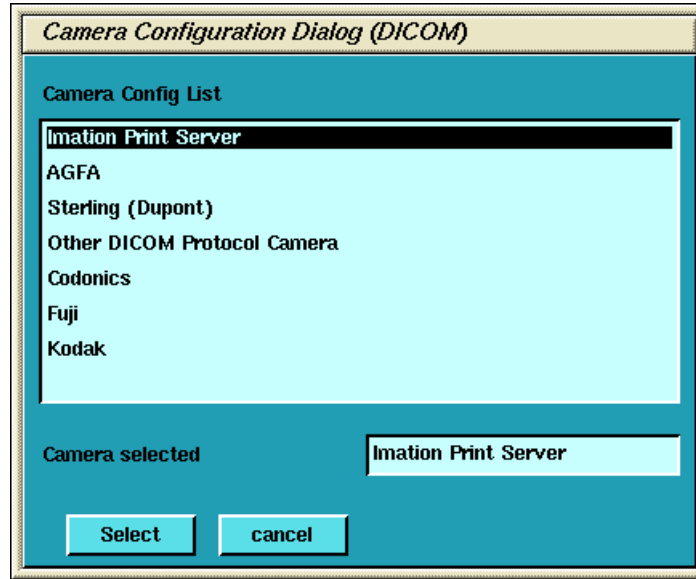

Figure 4-6 Camera Model Dialog (DICOM)
- a.) A list of camera models appears (See Figure 4-6). Select the appropriate model from the list and click SELECT. Clicking SELECT presets all the parameters to that models except the Network parameters.